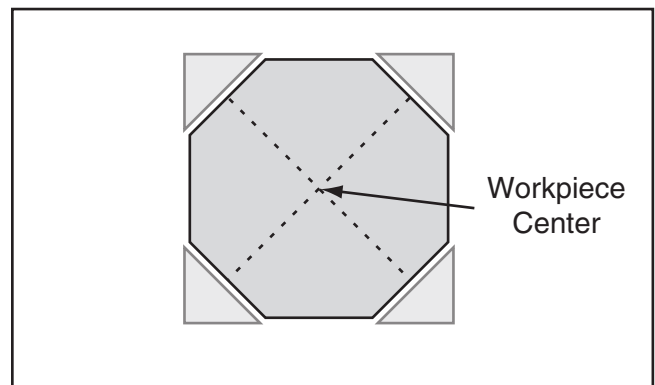

Figure 46. Corners of workpiece removed.
5. If your workpiece is over 2" x 2", cut corners off workpiece lengthwise to make turning safer and easier (see **Figure 46**).